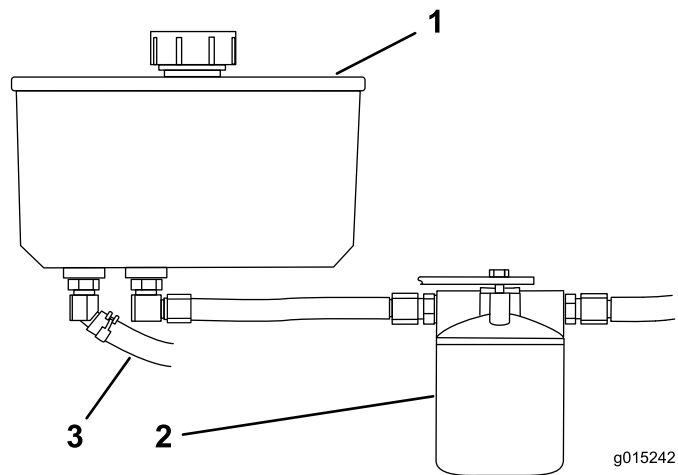

Figure 74
4. Locate the front hydraulic hose under the hydraulic tank, and place a drain pan under the tank (Figure 74).